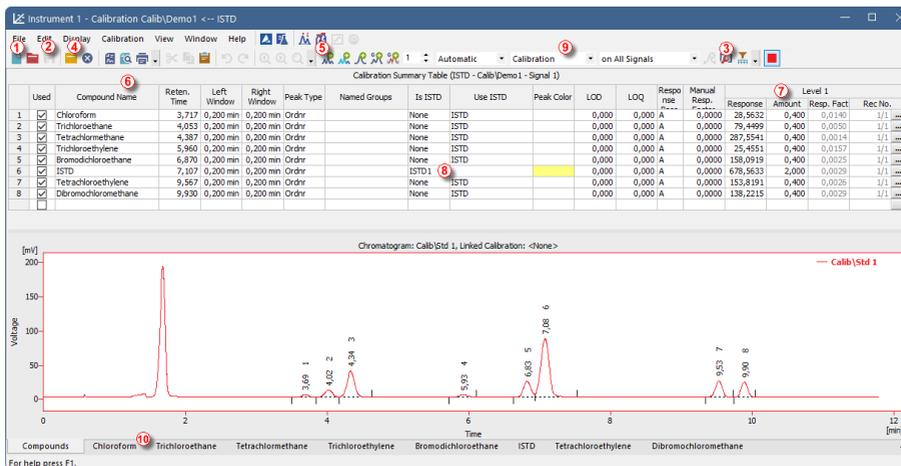

Fig. 16: The Calibration window - loaded standard
- Use the **Open Standard** icon (yellow) (4) to open the STD 1.PRM data file. The lower part of the **Calibration** window now displays the chromatogram of the standard.
- Use the **Add All** icon (blue) (5) to add all identified peaks to the Calibration Summary Table. The Table appears in the **Calibration** window, ready to be completed as shown on **Fig. 16** on pg. 28.
- As demonstrated in the Calibration Summary Table and the Chromatogram, individual peaks are now identified according to their retention times only. To label the peaks, click and edit the fields in the **Compound Name** column (6) to the names shown on **Fig. 16** on pg. 28.
- Fill the **Amount** column (7) with the concentration of the particular compounds. In this standard mixture, all compounds except for the peak number 6 (ISTD) have the amount of 0.4.